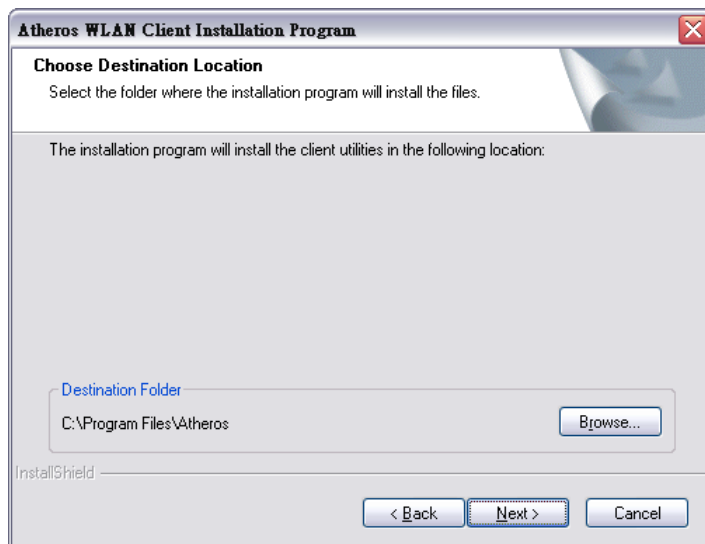

Figure 6-33: Wireless Driver – Choose Destination Location
Step 8: The Choose Destination Location window appears (**Figure 6-33**). Choose the installation directory. The default directory is recommended.